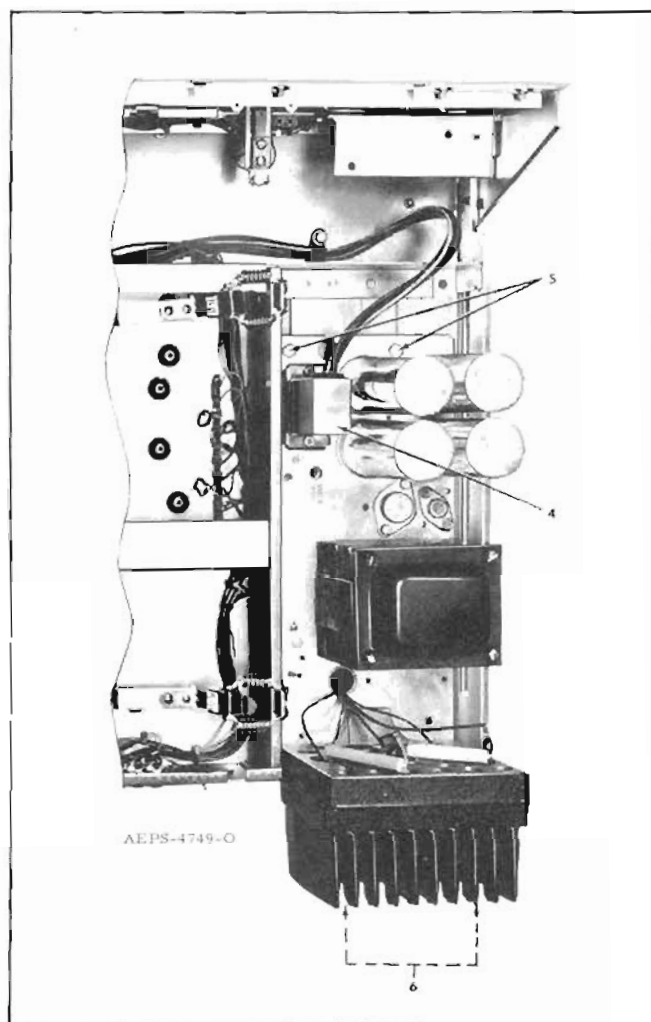

Figure 1. Power Supply Removal
Step 4. Disconnect the 15-pin power cable plug from the power supply (item 4 in Figure 1).
Step 5. Remove the screws indicated by item 5 in Figure 1.
Step 6. Remove two screws at the back of the power supply below the heat sink (item 6 in Figure 1).